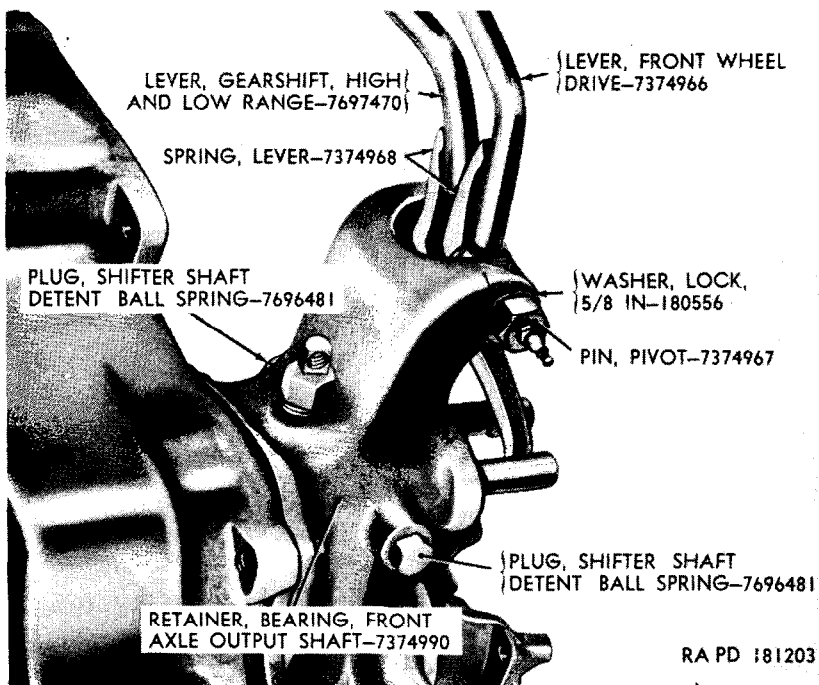

Figure 67. Transfer high and low range gearshift lever and front wheel drive lever installed.
b. Shift transfer into four-wheel drive and remove the two lever springs (fig. 67) from the levers. While holding the high and low range gearshift lever and front wheel drive lever, unscrew the lever pivot pin from the front axle output shaft bearing retainer and remove the lockwasher and levers.
c. Unscrew the 2 shifter shaft detent ball spring plugs (fig. 67) from the 2 sides of the front axle output shaft bearing retainer. Withdraw